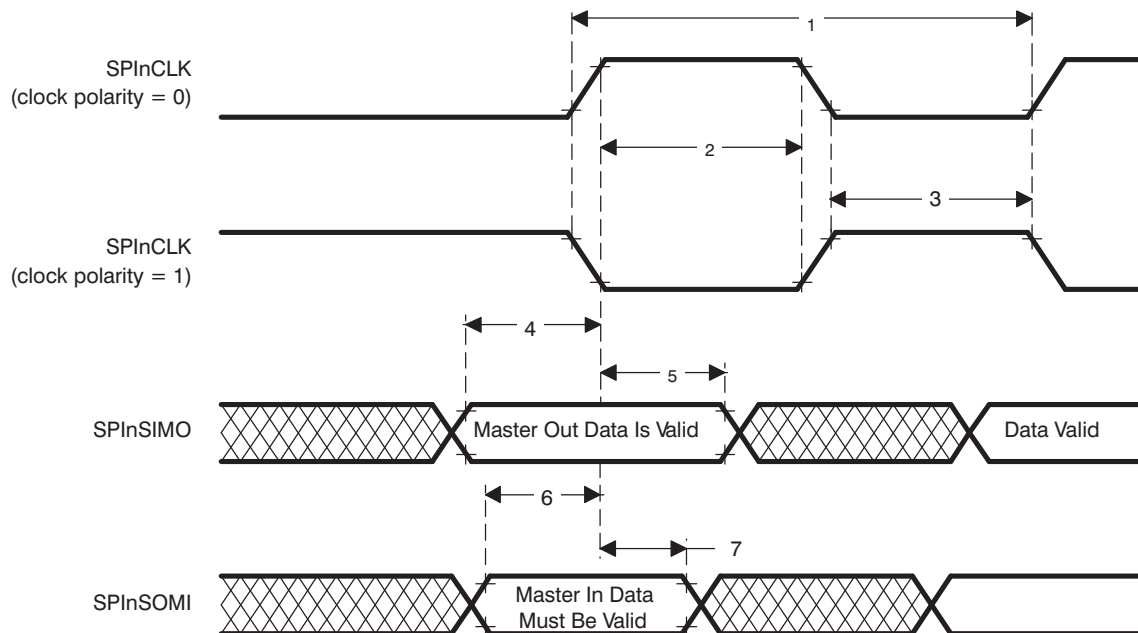

Figure 6-10. SPIn Master Mode External Timing (CLOCK PHASE = 1)
(CLOCK PHASE = 1, SPInCLK = output, SPInSIMO = output, and SPInSOMI = input)^{(2) (3) (4)} (see Figure 6-10)